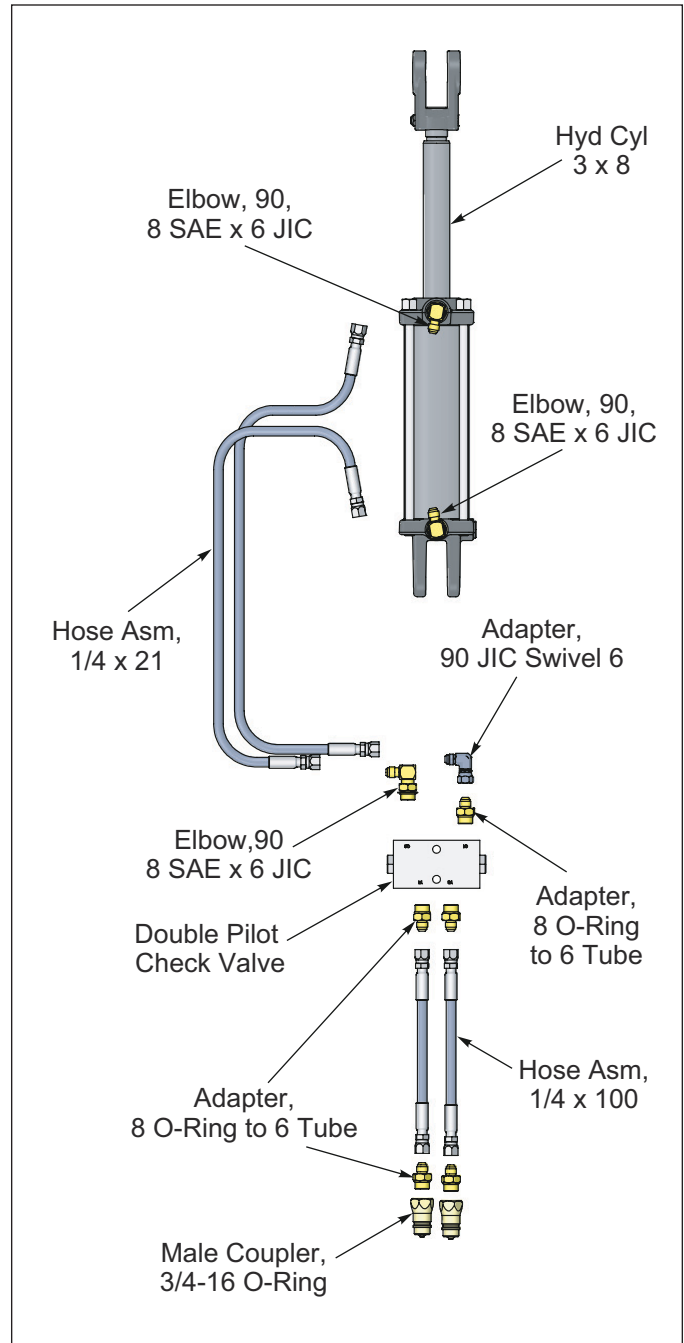

Figure 2-10: Drawbar w/Hydraulic Jack Schematic
6. Install Double Pilot Check Valve Fittings. **See Figure 2-10.**